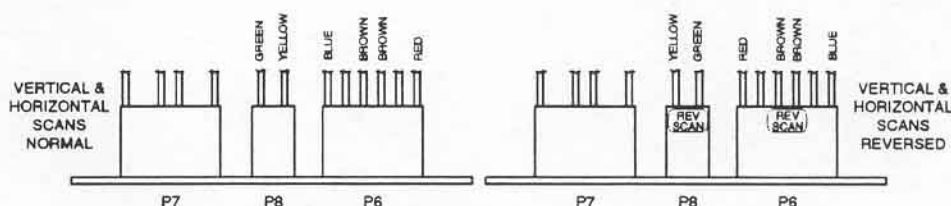

Figure 4-2. Normal and Reversed Configurations
- The horizontal and vertical yoke plugs are located at the Power Deflection Module, below the CRT necks. For each CRT, the orientation of the P6 yoke plug sets the horizontal scan direction. The orientation of the P8 yoke plug sets the vertical scan direction. If the scan direction is Reversed, a "REV SCAN" label is visible on the plug. If the scan direction is Normal, no label is visible. For each CRT, remove and reinsert the P6 and P8 yoke plugs as required to achieve the desired operating configuration. For example, Figure 4-2 illustrates two possible configurations.